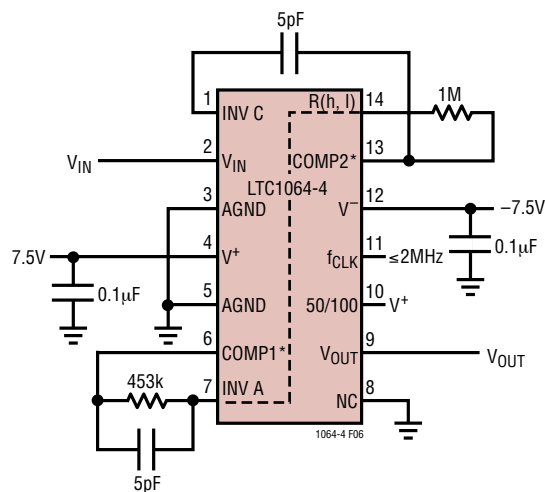
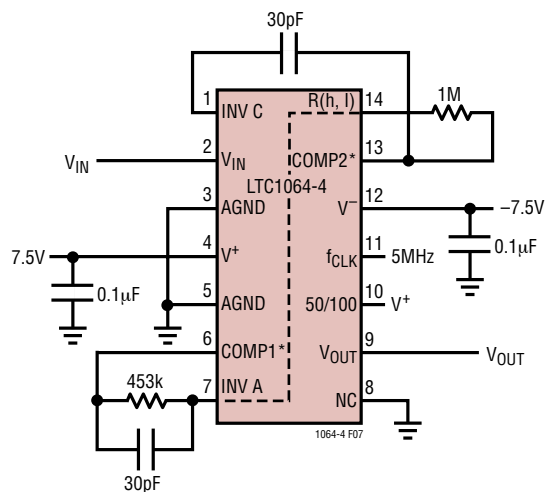

Figure 6. Compensating LTC1064-4 for Passband Ripple of ±0.1dB and fCUTOFF Sweeps to 40kHz.
Figure 7. Compensating LTC1064-4 for fCUTOFF = 100kHz, Gain at fCUTOFF = -1.3dB, Table 8.
Table 9. Gain/Phase for Figure 7.
**INV C, COMP1, INV A, COMP2 (Pins 1, 6, 7 and 13):** To obtain a Cauer response with minimum passband ripple and cutoff frequencies above 20kHz, compensating components are required. Figure 6 uses  $\pm 7.5\text{V}$  power supplies and compensation components to achieve up to 40kHz *sweepable* cutoff frequencies and  $\pm 0.1\text{dB}$  passband ripple. Table 7 lists the typical amplitude response of Figure 6. Figure 7 illustrates the compensation scheme required to obtain a 100kHz cutoff frequency; Graph 4 and Tables 8 and 9 list the typical response of Figure 7 for 25°C and 125°C ambient temperature. As shown the ripple increases at high temperatures but still a  $\pm 0.25\text{dB}$  figure can be obtained for ambient temperatures below 70°C.